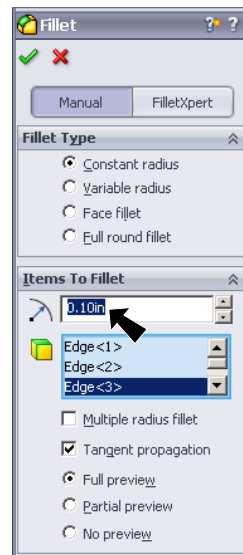

Fig. 13
Step 2. Set the **Radius**  .1 in the Fillet Property Manager, **Fig. 13**.